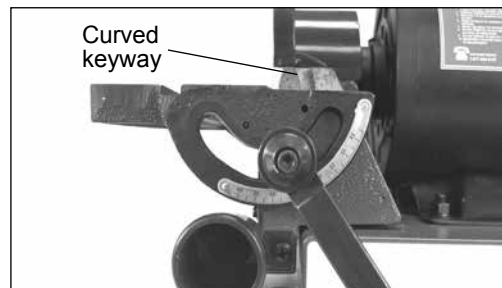

Figure 10
22. Line the disc sanding table's slotted right end with the curved keyway in the sanding disc base. Position it in the keyway so that the handle can be installed, fastening the parts together as shown above in figure 10.